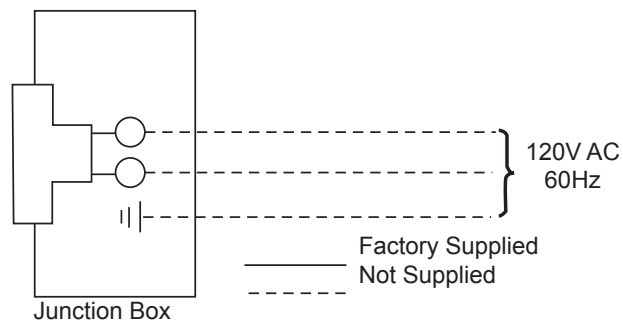

Figure 19. Junction Box Wiring Diagram
3. The junction box cover has a factory installed “romex” style strain relief connector. After connecting the wires, route the wire leads through this connector. Refer to the wiring diagram in Figure 19